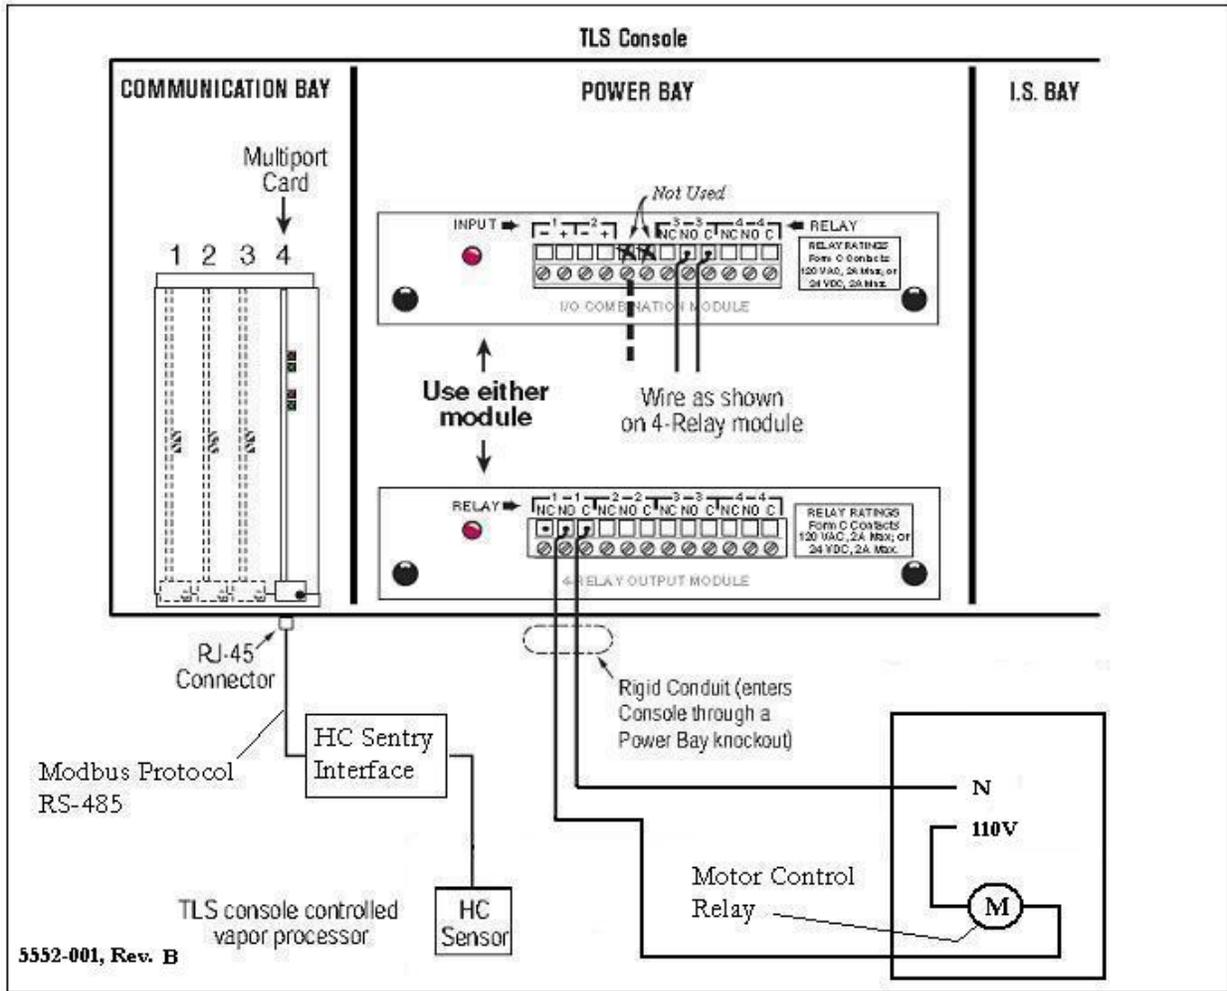

Figure 22: VR TLS Multi-Port Card Connection to HC Sentry Module
- ▶ **See Figure 22: Section 14 / Page 62**